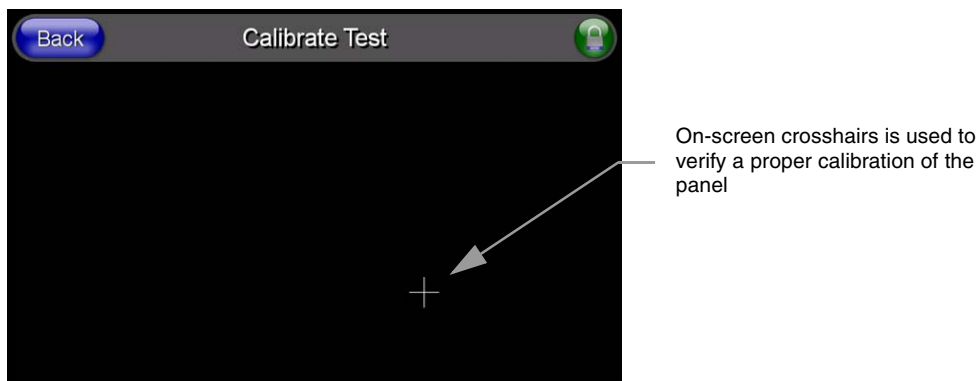

FIG. 48 Calibration Test page
1. Press and hold down the on-screen **Calibration** button for 6 seconds to enter the Calibration Test page (FIG. 48).